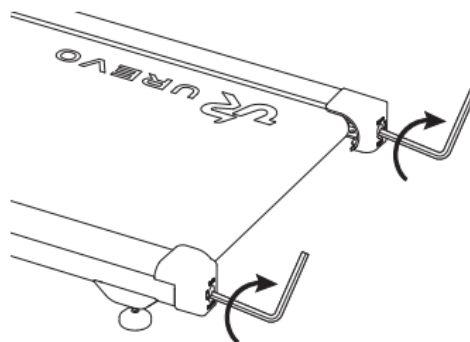

Figure 3
- Using the hex tool, turn both idler roller screws clockwise by a 1/2 turn (see Figure 3).